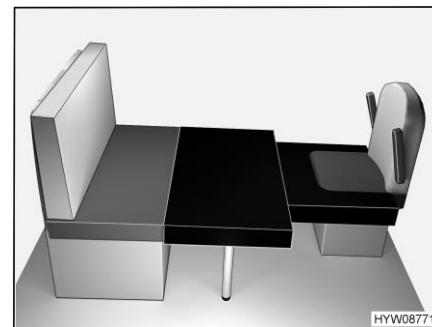

Fig. 73 After conversion
- Place big additional cushion on the table top (Fig. 73).
- Place small additional cushion on the driver's seat (Fig. 73).